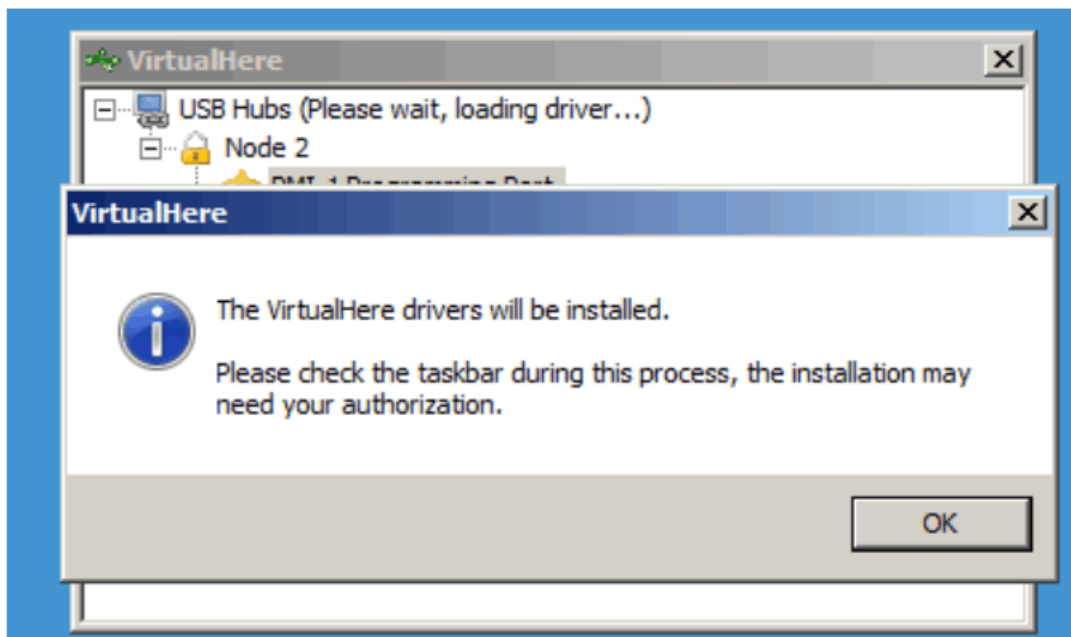
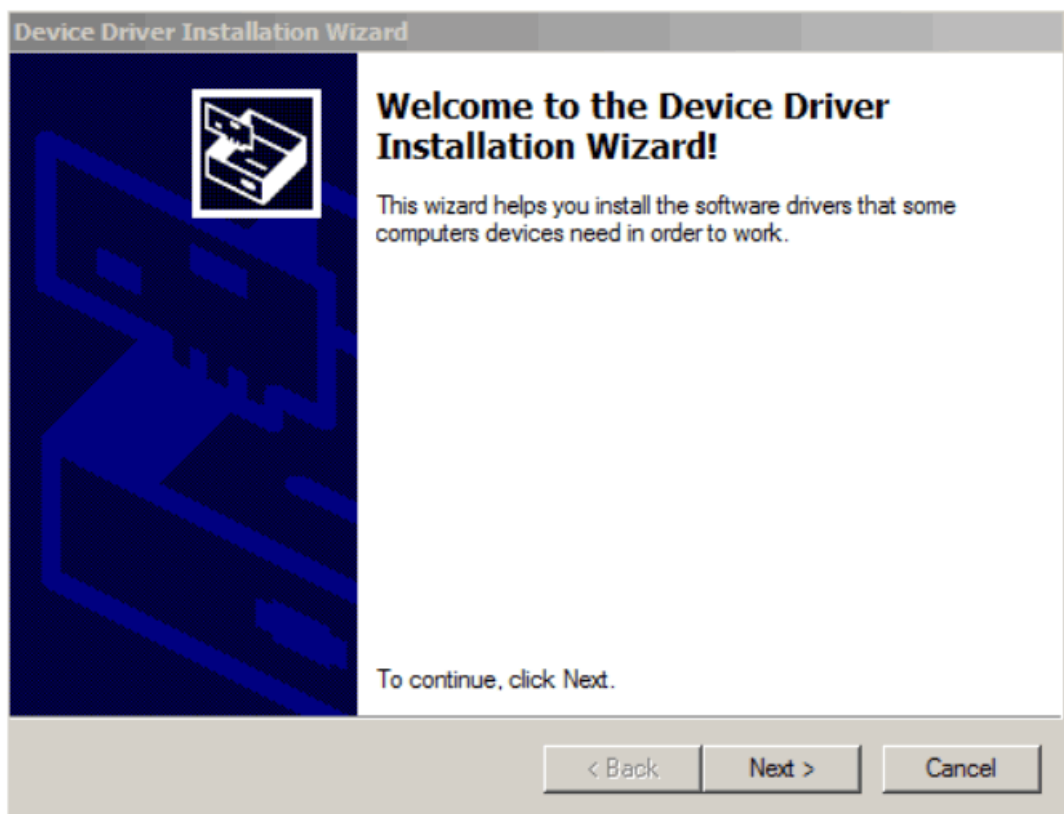
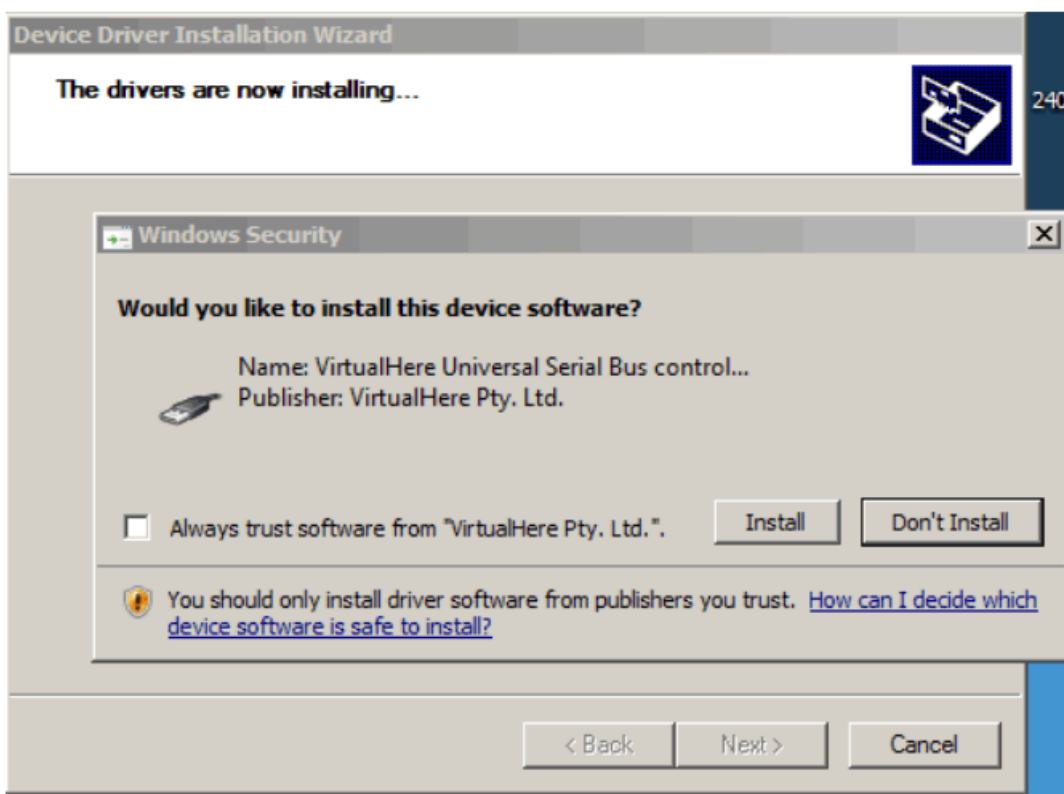
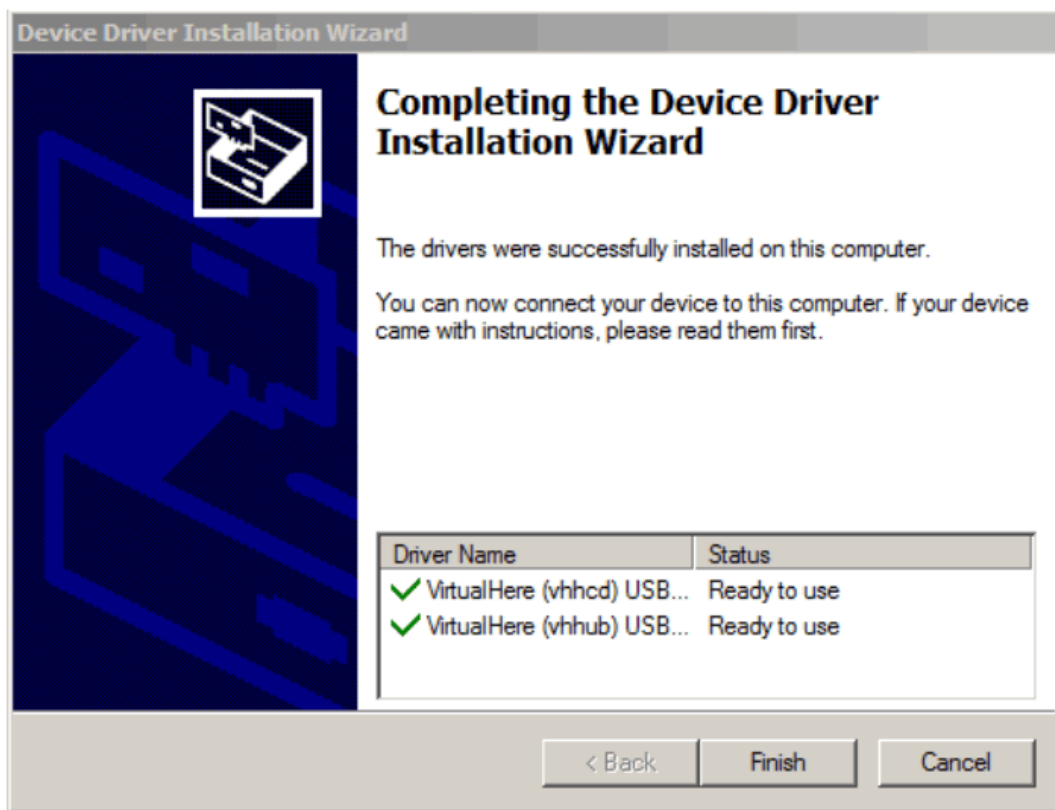

Figure 21 Installing the VirtualHere Drivers
Figure 22 Device Driver Installation Wizard
Figure 23 Install Device Software
Figure 24 Completing the Device Driver Installation Wizard
10. The last step before accessing the SNU Assy via the virtual serial port is to assign the local virtual port a com identifier. This is done by right clicking the port and selecting Use. Depending on whether this operation has been performed in the past or not, Windows may prompt you to install the VirtualHere drivers for the serial device. If so, select OK (see Figure 21). Then click Next (see Figure 22). Afterwards, click Install (see Figure 23) and then click Finish (see Figure 24). The port will now be listed under Ports (COM and LPT) in the Windows Device Manager. It is recommended to open the Device Manager before using the port so you can see which COM port is assigned to the device.